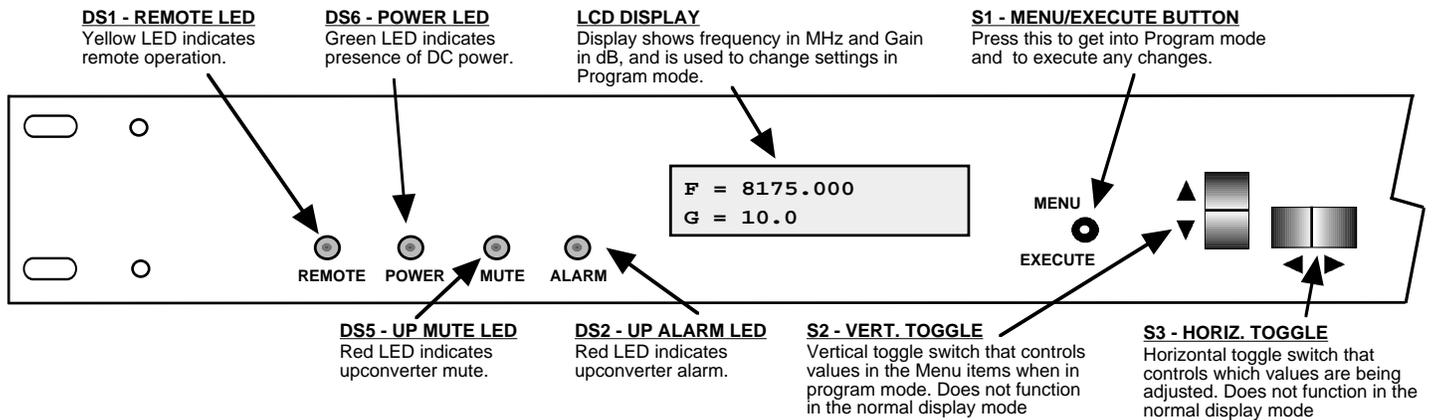

FIGURE 2.3 2015-7984-720-400 Front Panel Controls and Indicators
2.3 Front Panel Controls and Indicators - Figure 2.3 shows the front panel controls and indicators.
7. Be sure DS6 (green, DC Power) is on and DS2 (red, Alarm) is off (Figure 2.3).